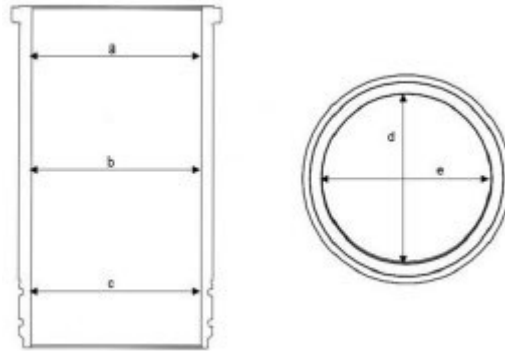

Figure 106.
3. Take measurements at three places (Figure 106) (a, b, c), and in two directions (d and e) in each cylinder liner.